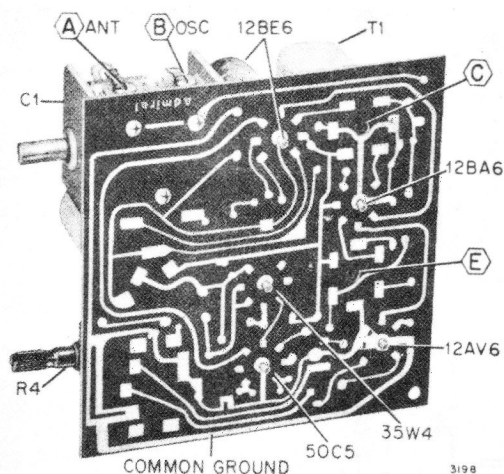

Figure 2. Bottom View of Chassis.
The printed circuit wiring used in this receiver results in greater uniformity of chassis wiring and component placement, simplified circuit tracing (see figure 2) and greater component accessibility. The printed circuit wiring is permanently bonded to the plastic chassis board. This board is translucent. If a light source is directed on the bottom of the chassis board, the printed wiring will be silhouetted through the board and component location for circuit tracing will be facilitated.
- Use an isolation transformer if available; otherwise, connect a .1 mfd. capacitor in series with low side of signal generator and connect to common ground (see figure 2).
*Adjustments "C" and "E" made from underside of chassis; see figure 2.